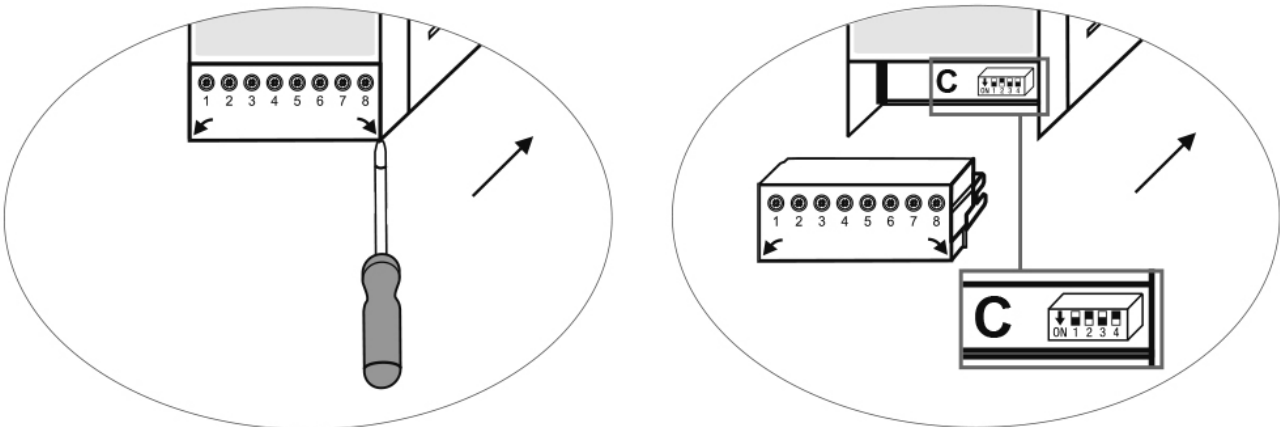

Fig. 5
Switch code C : S1 = OFF, S2 = ON, S3 = OFF, S4 = OFF, voir Figure 5.
- Retire le bornier inférieure (Fig. 5)